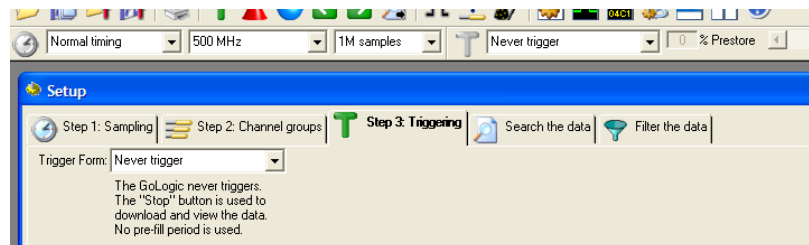

Figure 3. Step 3 of setup: triggering.
9. Set up the triggering method by clicking the **“Step 3: triggering”** tab. Choose *“Never triggered”* option from the pull-down menu (Figure 3). This means that the sampling process will continuously take place without any triggering mechanisms. For more triggering options, refer to the GoLogic user manual.